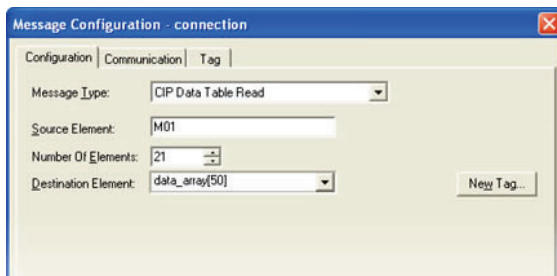

Figure 70: MSG Instruction Configuration
b) Click the message configuration button ("...") in the MSG instruction. The "Message Configuration" window will open. Refer to Figure 70.